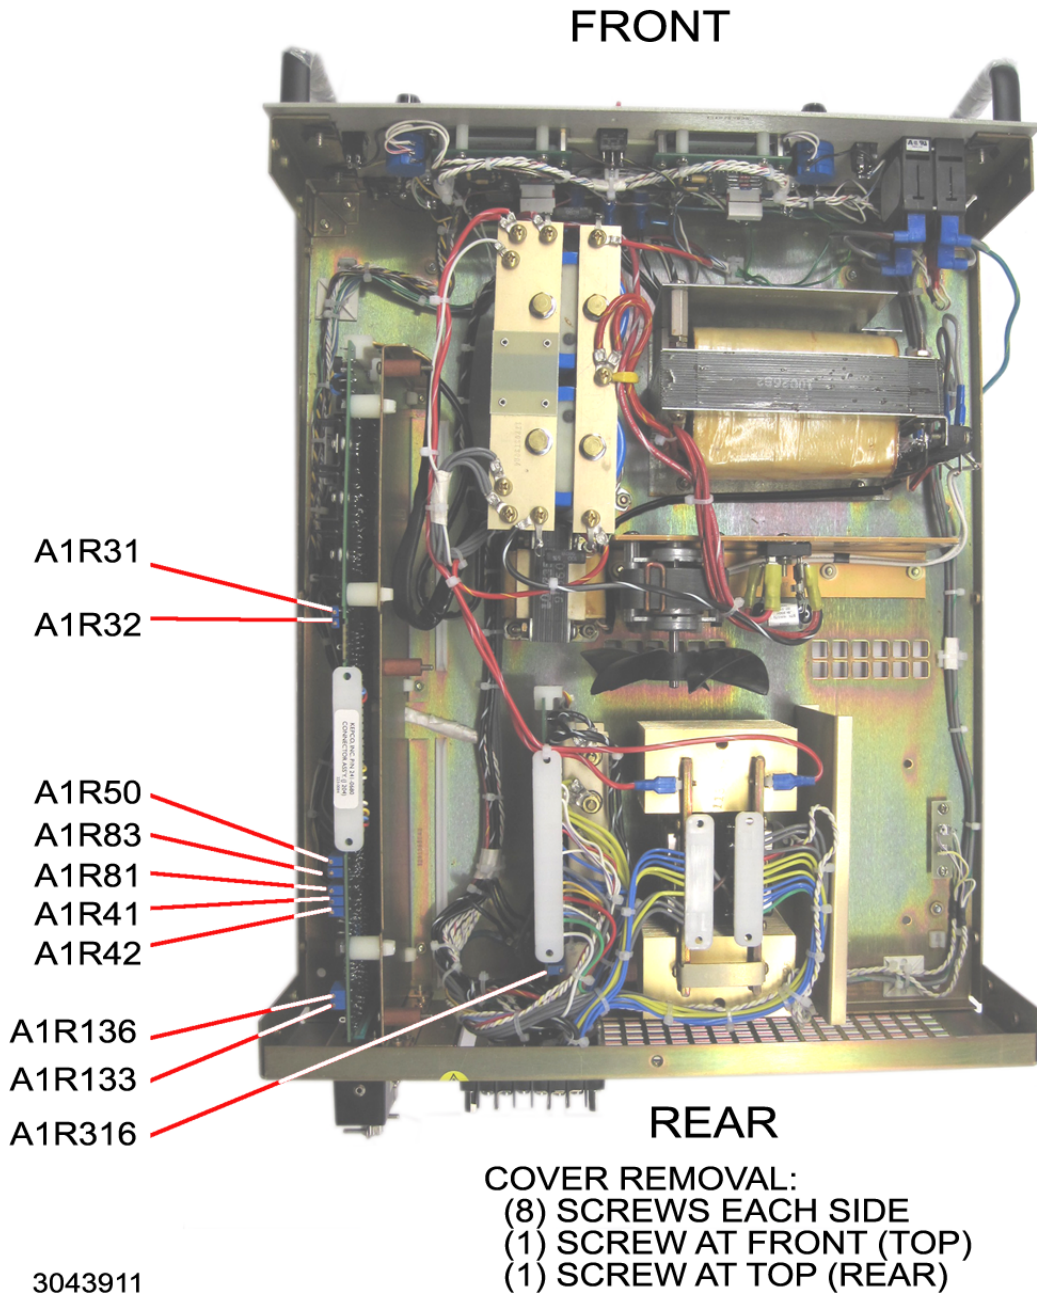

FIGURE 4-2. COVER REMOVAL AND INTERNAL COMPONENT LOCATIONS
1. Turn BOP off and remove the cover (see Figure 4-2).
3. Turn the BOP on and locate the +10V CAL control, A1R31 (see Figure 4-2).
6. Adjust -10V CAL control, A1R32 (see Figure 4-2) to -10V \pm 0.1mV as read on DVM.
4. Locate the PREAMP “A” ZERO control (see Figure 4-2, A1R41), then turn the BOP on and adjust control for $0V \pm 0.1mV$, as read on DVM.
4. Locate the PREAMP “B” ZERO control (see Figure 4-2, A1R42), then turn the BOP on and adjust control for $0V \pm 0.1mV$, as read on DVM.
2. Turn the BOP on and locate the Ammeter Zero control (A1R50, Figure 4-2).
4. Adjust I_O -OFF ZERO (A1R133) potentiometer (see Figure 4-2) for $0A \pm(0.01\% \text{ of } I_{O\text{nom}})$ as read on the DVM connected to the shunt. (For BOP 5-20DL $I_{O\text{nom}}$ is 20A and adjustment tolerance is $\pm 2\text{mA}$.; For BOP 5-30DL $I_{O\text{nom}}$ is 30A and adjustment tolerance is $\pm 3\text{mA}$.)
5. Locate the E_O COMP AMP ZERO control (see Figure 4-2, A1R81), then turn on BOP and adjust the control for $0V \pm (0.005\% \text{ of } E_{O\text{nom}})$, as read on DVM. For BOP 5-20DL, $E_{O\text{nom}}$ is 5V and the tolerance range is $\pm 0.25\text{mV}$.
6. Locate the I_O COMP AMP ZERO control (see Figure 4-2, A1R83), then turn on BOP and adjust control for 0A ±(0.005% of I_Onom), as read on DVM. For BOP 5-20DL, I_Onom is 20A and the tolerance range is ±1mA; for BOP 5-30DL, I_Onom is 30A and the tolerance range is ±1.5mA.
8. Adjust A3R316 (see Figure 4-2 for location) until current reading displayed by ammeter or by the shunt's DVM exactly matches the BOP rated output current with 0.005% tolerance (-20A ±1mA for BOP 5-20DL, (-30A ±1.5mA for BOP 5-30DL). The current reading will show negative polarity due to the default inverting configuration of the unit.